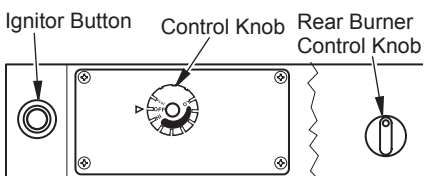

Figure 21 - Control Knob(s) and Ignitor Button Locations
5. Turn control knob counterclockwise to the PILOT position. Press in control knob for five (5) seconds (see Figure 21).